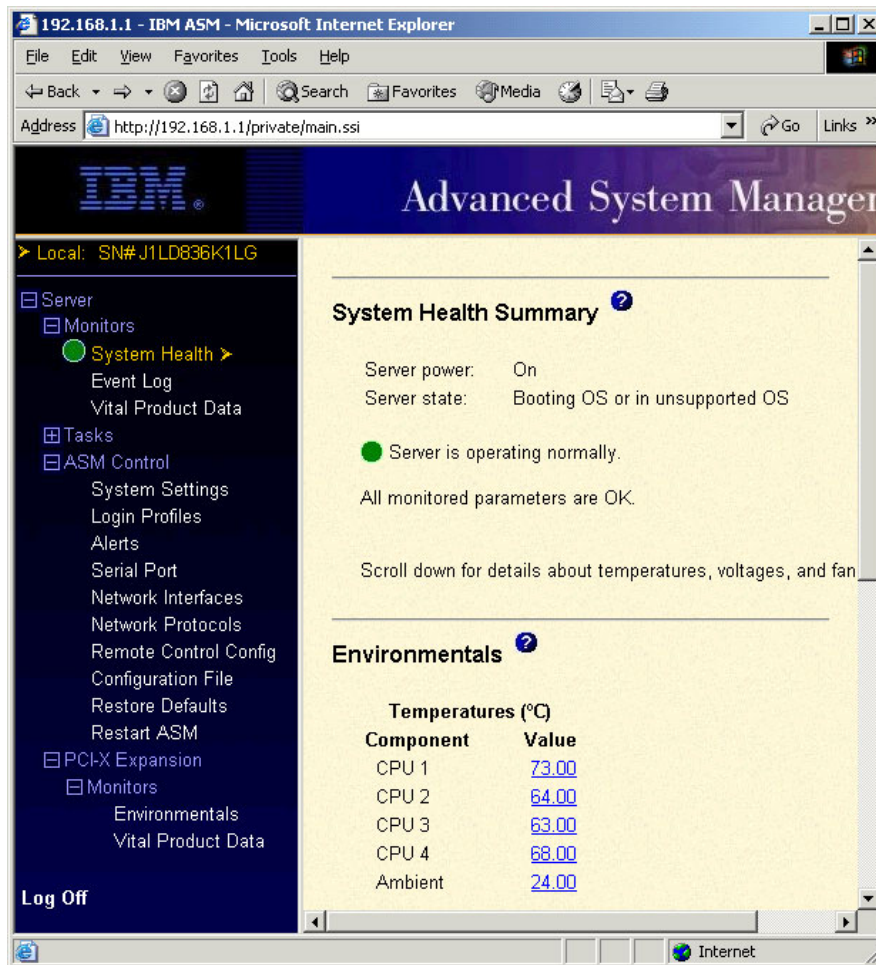

Figure 5-3 Remote Supervisor Adapter Web interface
16. Once you are connected, the main menu should appear. See Figure 5-3.
2. Select **Access Remote ASM** from the main menu (Figure 5-3 on page 183).